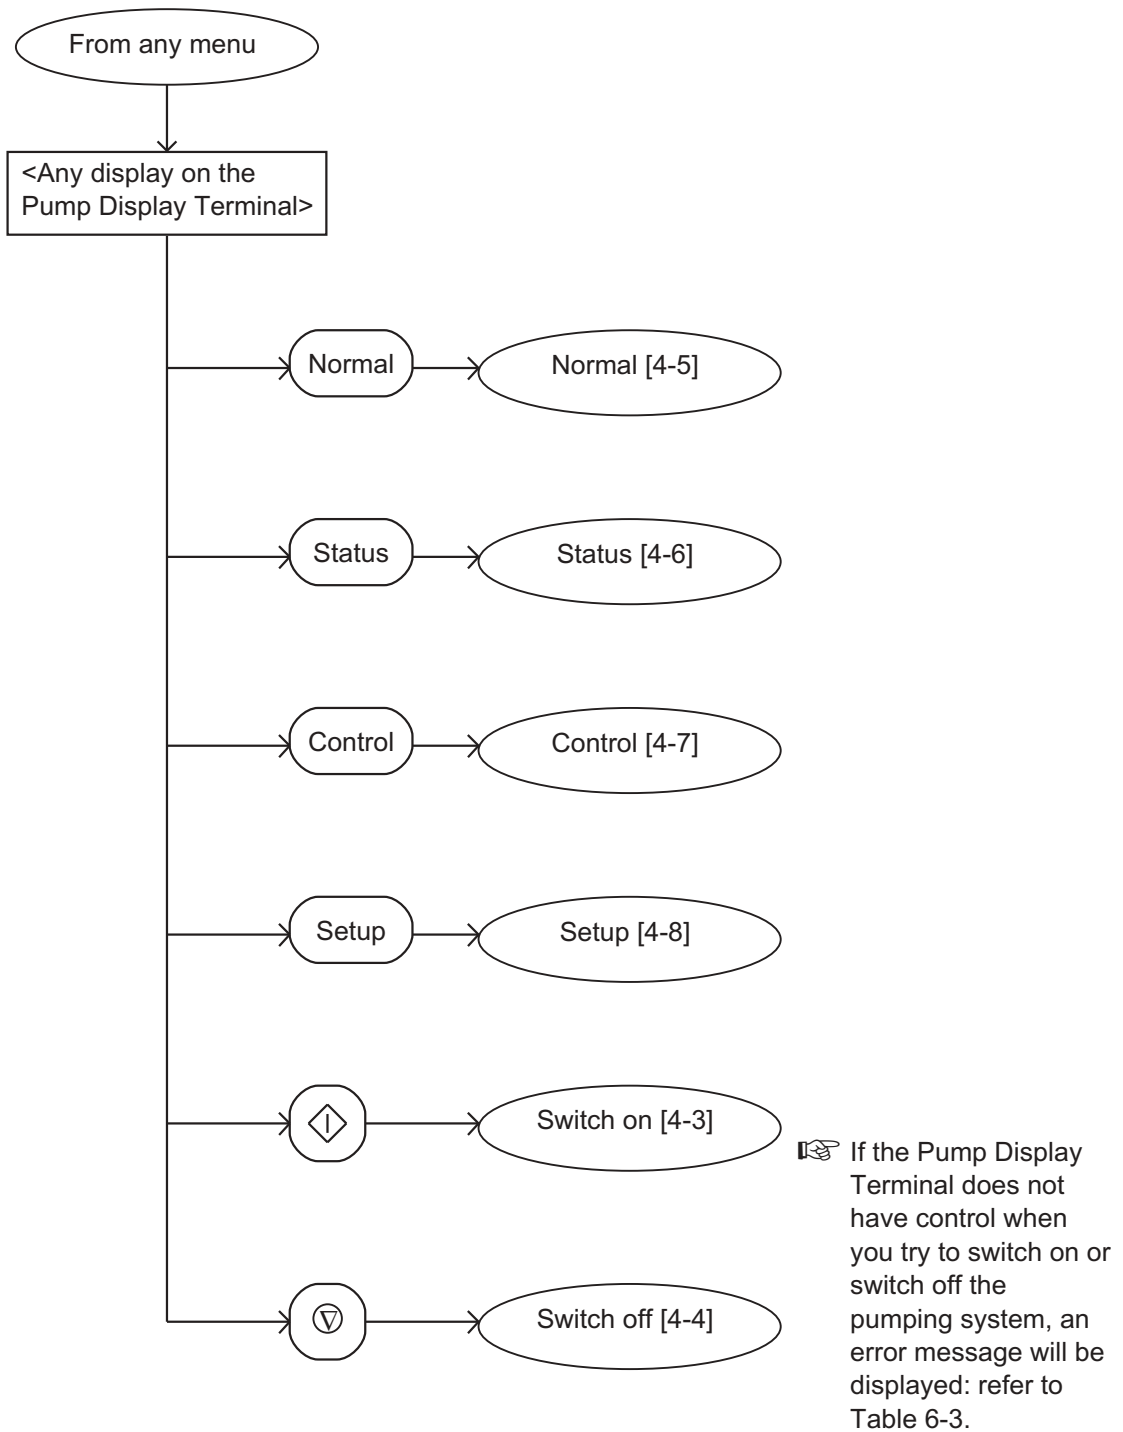

Figure 4-2 - Menu logic
The menus used and the display messages shown on the Pump Display Terminal are described in the menu diagrams in Figures 4-2 to 4-19. The following symbols and conventions are used in the menu diagrams:
When you first switch on the iK500 system, the normal display is shown: see Figure 4-5. Refer to Figure 4-1. You can then press the On or Off button (1 or 10) or any of the four menu buttons (7) to enter the corresponding menu. Then, regardless of the current menu and display status, when you press any of these buttons, you exit the current menu and enter the corresponding new menu. Figure 4-2 shows this menu control logic.
In the menu diagrams in Figures 4-2 to 4-19, text shown without chevron brackets in the two-line display symbol is the actual text that will be shown on the display. In this text, the 'Δ' symbol is used to show where a digit will be shown; the value of the digit depends on the sensor data or information you enter into the Pump Display Terminal.